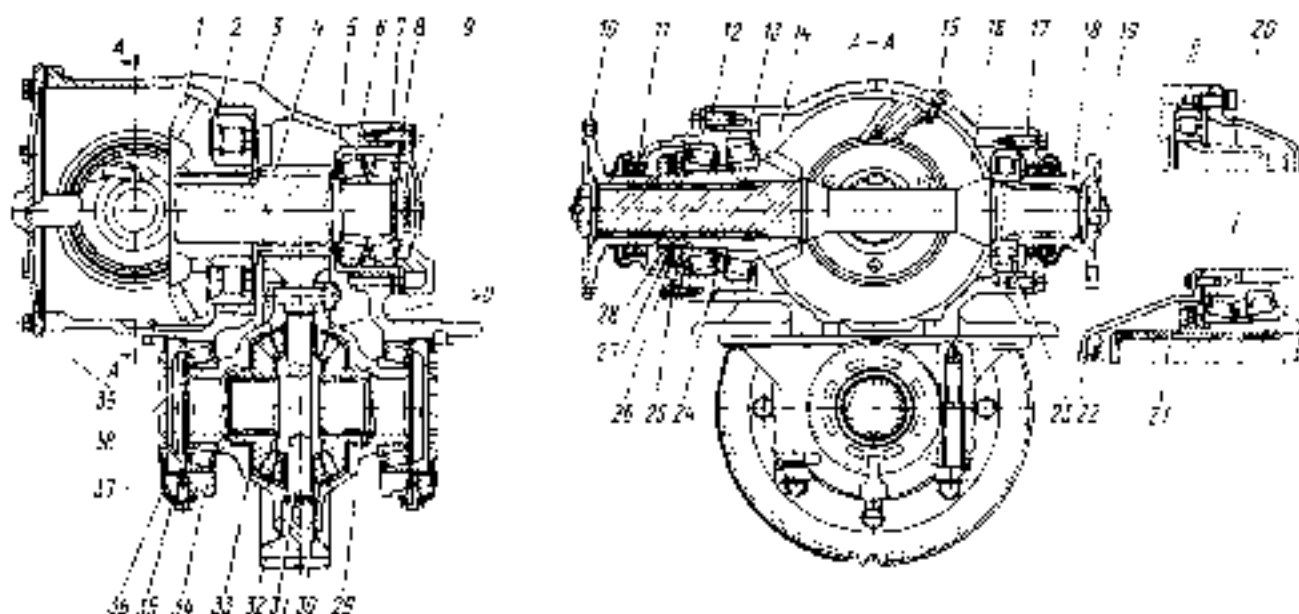

Fig. 77. Final Drive:
Axle final drive is of double-transmission type comprising a pair of bevel gears 1 and 14 (Fig. 77) with round teeth and a pair of skew spur gears 4 and 32.
Final-drive gears and bearings are lubricated with oil filled in the axle case. Oil is entrapped by gears, splashed over, flowing via roller bearing 2 (see Fig. 77) to the final drive unit case gear cavity and then to the axle case.
1. Fit the final drive unit in the fixture, remove the differential unit and flanges. Screw out the bolts which fasten bearing body 13 (see Fig. 77) of driving bevel gear 14. Pick out the driving gear shaft together with the body and gear.
cover and remove the latter. Unlock locknut 28 (see Fig. 77) and undo it. Remove lock washer 26 and safety washer 27. Tighten the nut at 450—500 N·m (45—50 kgf·m). Fit the indicator and measure clearance in the bearings. Do not readjust the bearing
2. Adjust preload of the bearings on the intermediate shaft. When adjusting, select a pack of shims 8 (see Fig. 77) to be placed under the bearing cap 9 of body 5. Check that the torque required for cranking the intermediate shaft is about 0.9—1.5 N·m (0.09—0.15 kgf·m).
4. Mount the differential unit and adjust the differential bearings. Tighten the differential bearing cap fastening bolts with a torque of 320 N·m (32 kgf·m). When adjusting the differential bearings, use nuts 37 (see Fig. 77). On tightening the nuts, check that the distance between the differential bearing caps is widened by 0.01—0.14 mm. When adjusting, crank the differential unit so as to set the rollers in the bearings. The driven spur gear rim